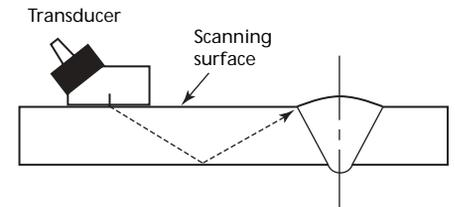

Figure 3. Demonstration of minimum backoff distance.
**Impact Echo.** Related to the sounding technique is the *impact echo* method.2 Impact echo consists of striking the concrete surface with a small, spherical hardened steel ball 4 to 20 mm (0.16 to 0.8 in.) in diameter (Fig 3). Stress waves generated by the impact propagate in the concrete and are detected by either a piezoelectric displacement transducer or an accelerometer located adjacent to the impact location. Data is collected over sufficient time to allow for several reflections of a primary (longitudinal) wave (*p-wave*) through the thickness of the concrete.
Figure 3. Impact echo is useful in determining slab thickness, voids and subsurface discontinuities. Concrete surface is impacted with hardened-steel ball to generate stress waves.
Material thickness will define the inspection angle required to adequately cover the full volume of the area to be inspected. For example, on thinner materials, if a wedge with a steep angle such as 45 degrees is used, the second leg of the sound beam may come back up under the front edge of the wedge, making it impossible to measure the surface distance. If a shallower angle is used such as 70 degrees, the distance the probe must be backed away from the area of interest may be excessive and can exceed the part size or geometry. Generally, to ensure a complete inspection, the operator must be able to back the transducer away from the nearest edge of the area of interest by at least the full skip distance for the angle being used plus the length of the transducer. This will permit the sound beam to interrogate the part using both legs of the sound beam (Fig. 3). The scanning surface must be free of weld spatter, dirt, loose scale and other foreign matter to allow proper coupling of probe and base metal. Part size may limit choice of search angle if there is limited scanning space next to the area of interest.